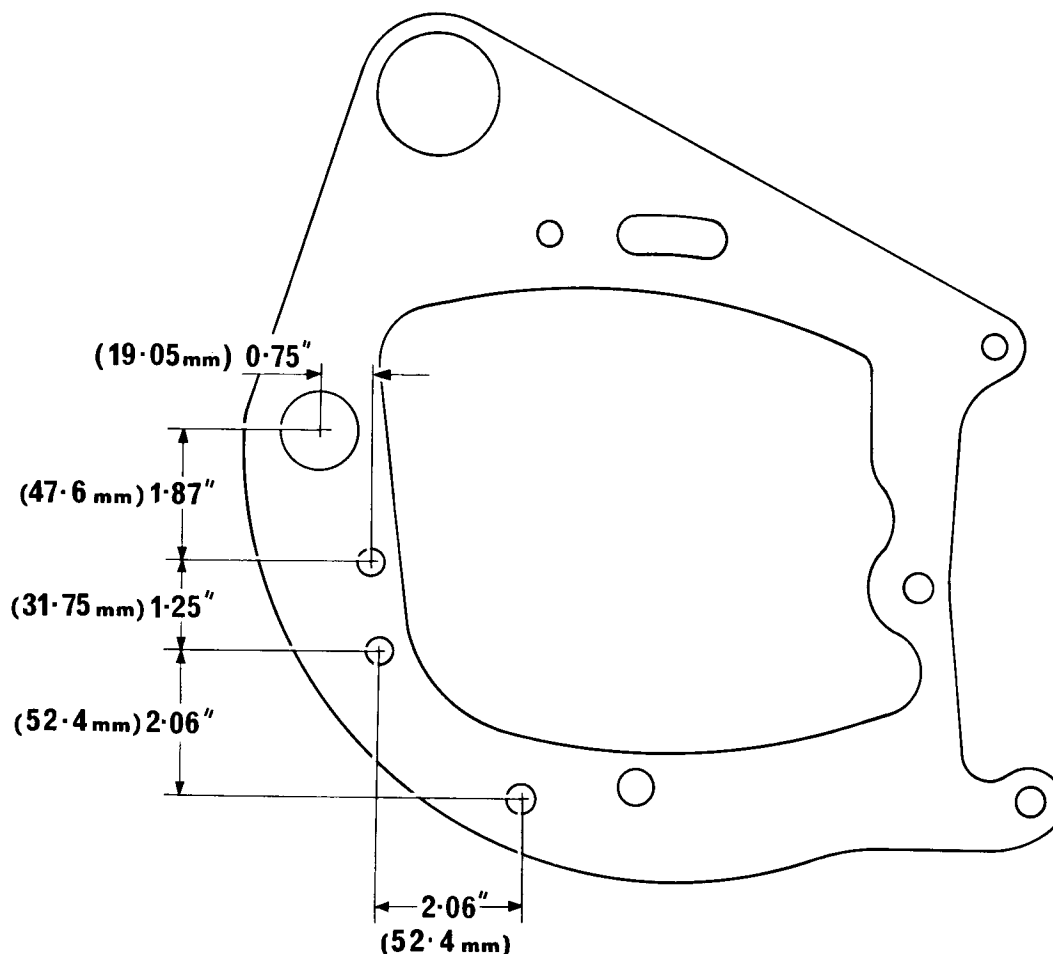
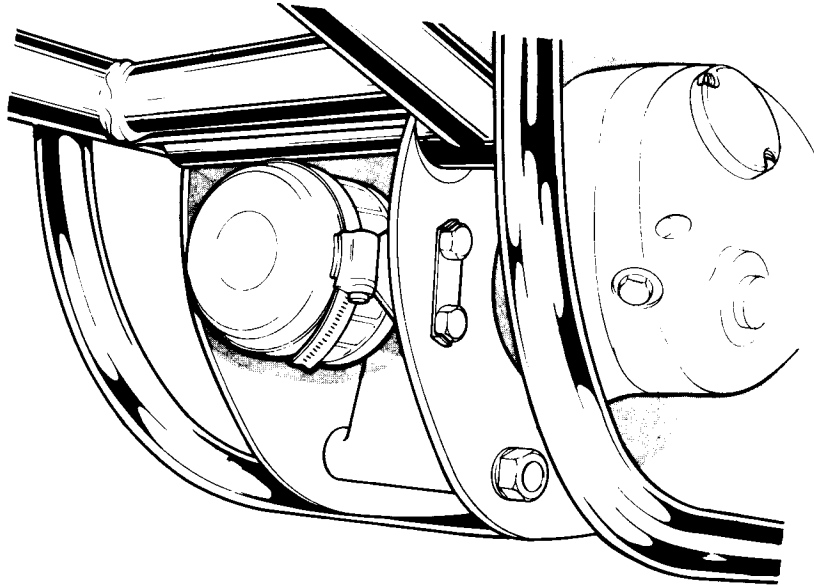

Fig. 2 Engine plate drilling points.
Fig. 3 Oil filter in position.
4. Drill two 11/32in. (.87mm) holes to mount the oil filter assembly at the right hand rear of the engine plate. Fig 3 shows the filter and securing hardware in position. Note that the filter must clear the swinging arm in its lowest position. The location of the filter mounting, rearwards of the gearbox shell, will be seen. The position for drilling the holes shown in Fig. 2 is given as a guide only. This is the position used during assembly at the factory but is purely arbitrary. It may be found simpler to use the mounting screw tab washer as a template during drilling.